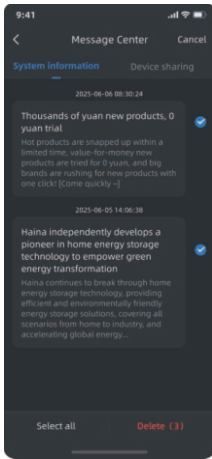

Figure 2
- 2) Figure 2: Click on **"Delete"** in the upper right corner to select some or all messages for deletion.